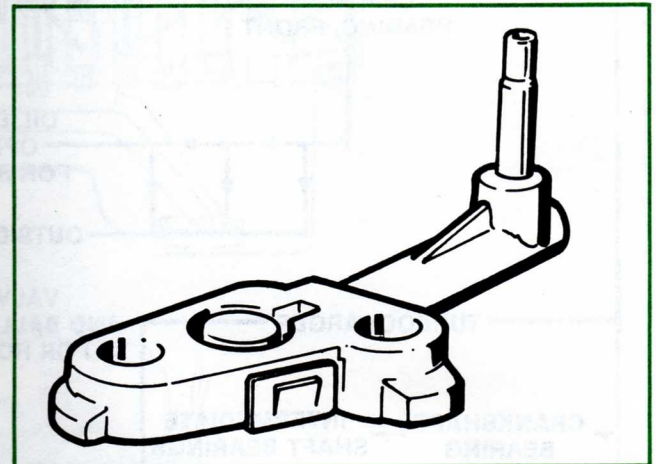

Figure 7. Oil Spray Jet
- Oil spray jets (one for each piston) (Fig. 7)